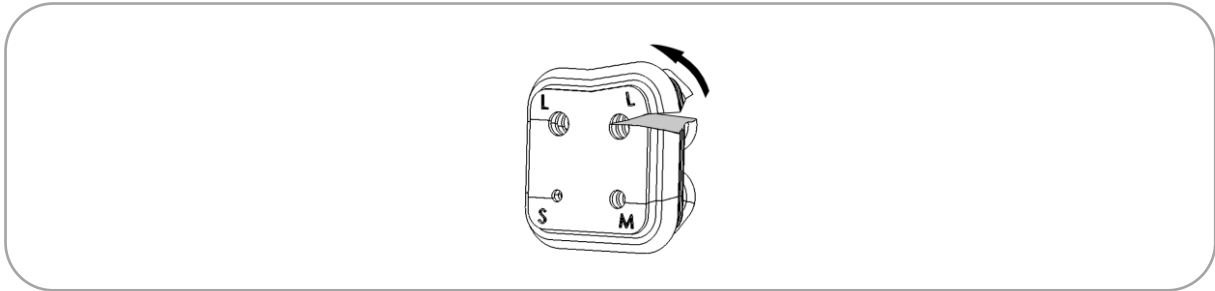

Figure 41: Rubber insert of VESA adapter
- To do so, pull the frame to the side (Figure 41).